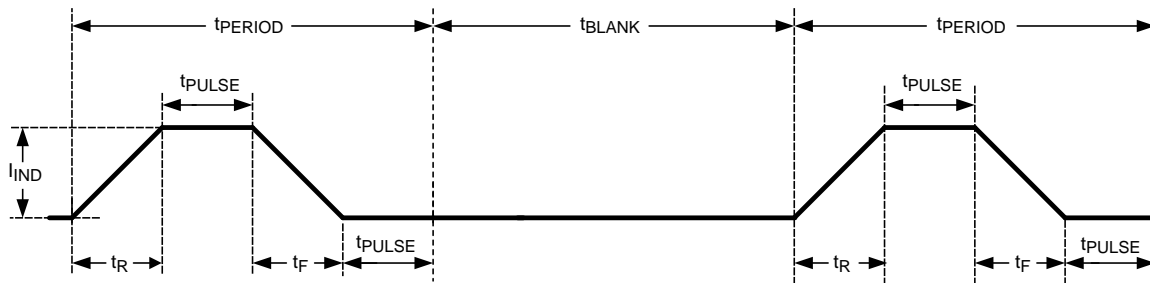

Figure 8. Message Indicator Timing Diagram
2. Number of periods (PERIOD #). This has 8 steps. A period (t_{PERIOD}) is found by ($t_{\text{PERIOD}} = t_{\text{R}} + t_{\text{F}} + 2 \times t_{\text{PULSE}}$). (See Figure 8 for indicator timing).